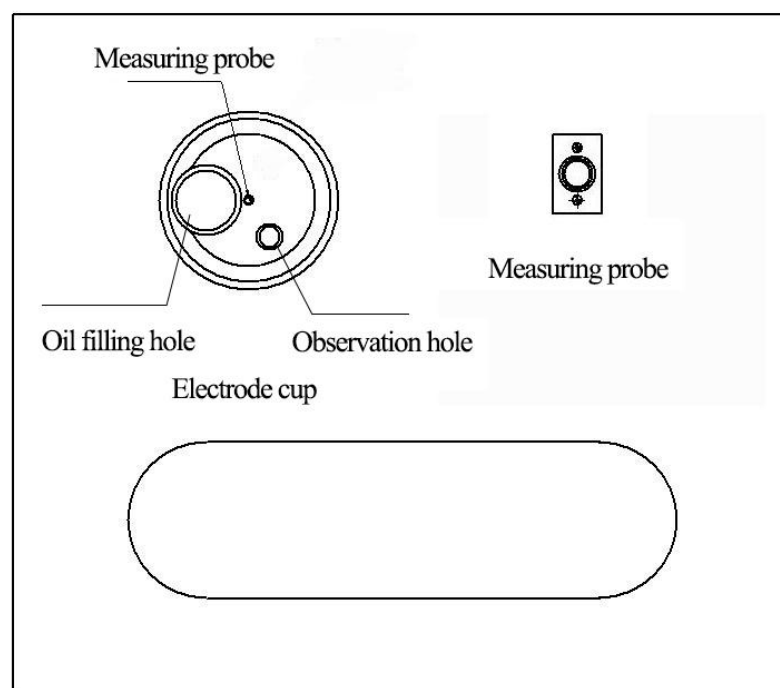

Fig.2 Top panel
1、Place the cleaned test cell in the groove, and connect the test cable as shown in Fig.2.